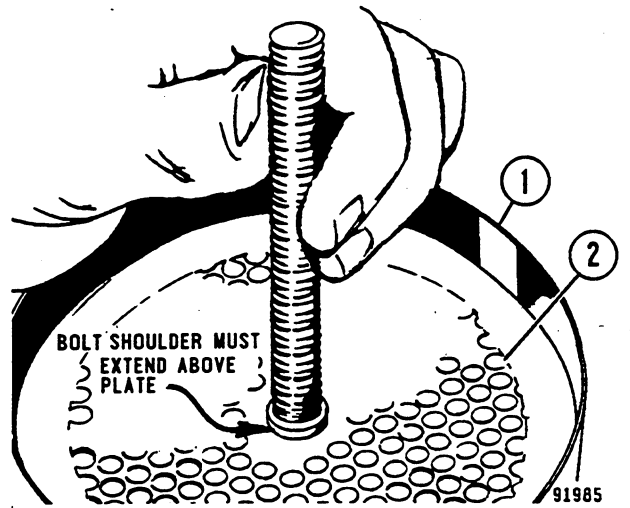

FIGURE 3-4. INSTALLING PERFORATED PLATE
5. Level the desiccant material and install second perforated plate (19) with the felt cloth down, making sure the shoulder of the bolt is centered, and extends slightly above the top of the perforated plate. (Refer to Figure 3-4).
*NOTE: If the shoulder of the bolt does not extend above the perforated plate (2, Figure 3-4), tap the side of the cartridge shell (1).*